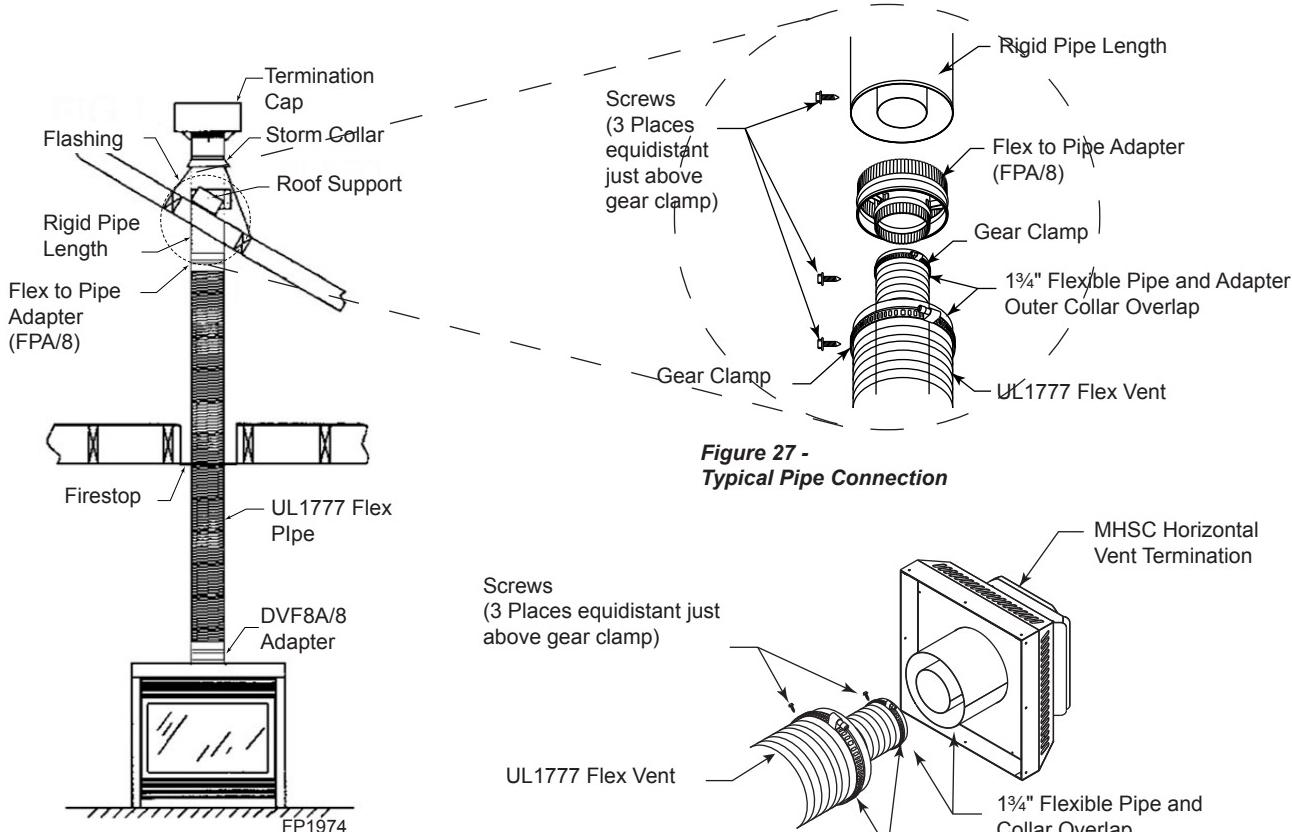

Figure 26 -
2. Install firestop spacers, *Figure 26*, when penetrating ceiling, attic spaces, or walls.
4. Use only listed and approved terminations and accessories, installed per the installation instructions and *Figure 26*.